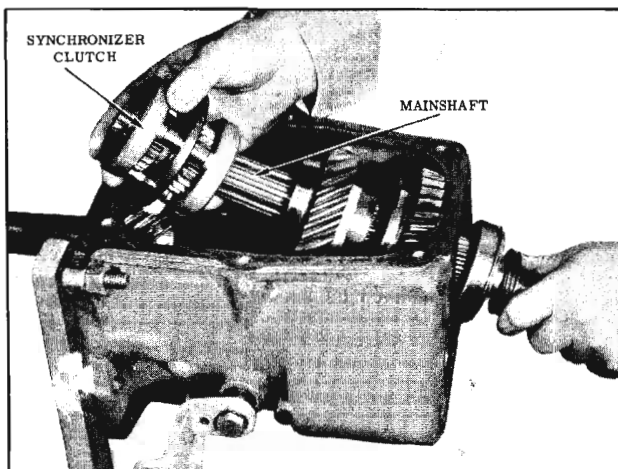

Fig. 11-9 Removing Synchronizing Clutch
6. Remove the synchronizing clutch from the main shaft. (Fig. 11-9)